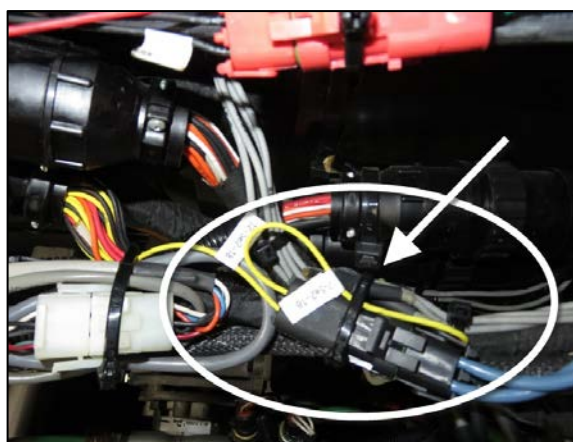

Figure 21
37. Use cable ties to secure the C2A round connector and all new wires and connectors with existing wiring (Figure 21).